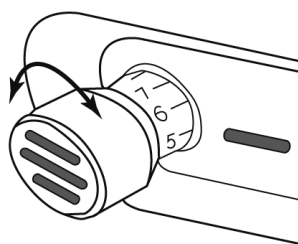

Figure 16: Thickness adjustment knob
- Lift the transport rollers and the movable exit rollers by turning the thickness adjustment knob (see Figure 16) to the maximum thickness (scale value "5").